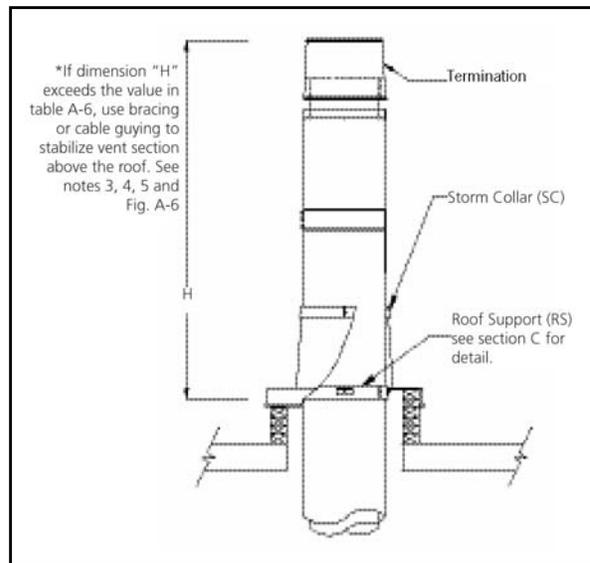

Figure A-5 - Maximum freestanding vent height
2. For low freestanding installations the system needs no special guying or bracing if overall height between the roof support and the top of the vent is no greater than 10 feet. See Fig. A-5 for detail.